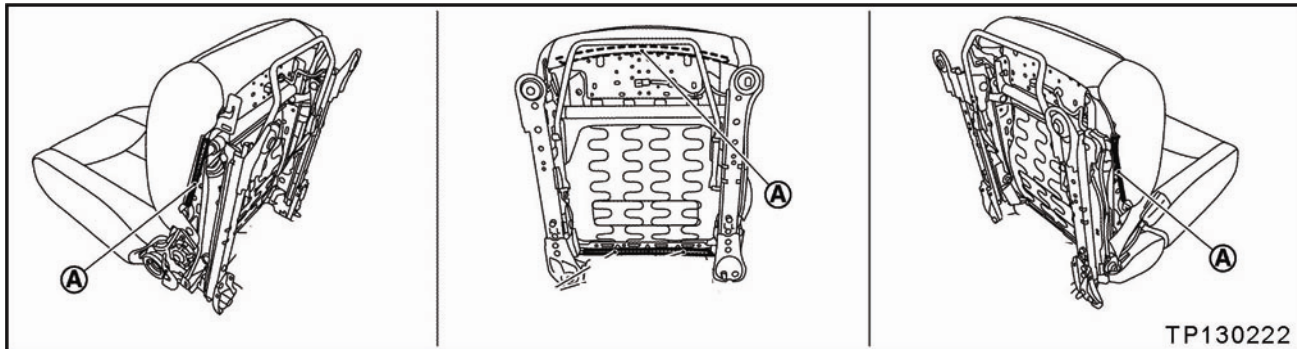

Figure 4
7. Disconnect the seat cushion trim J-hooks A (see Figures 4 and 5).